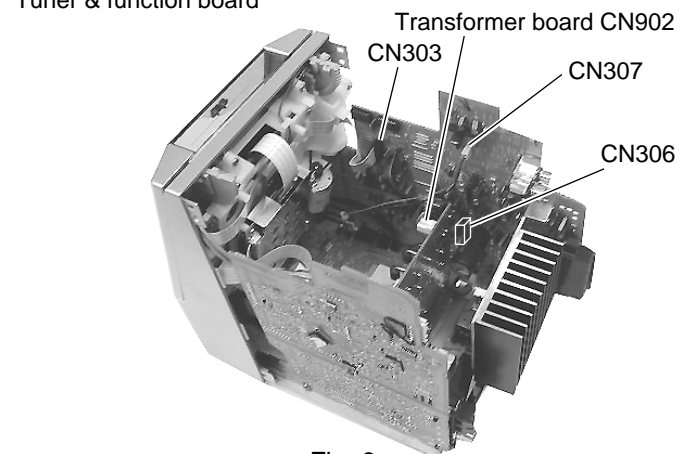

Fig. 8
**■ Removing the main board / the heat sink (See Fig. 8~10)**